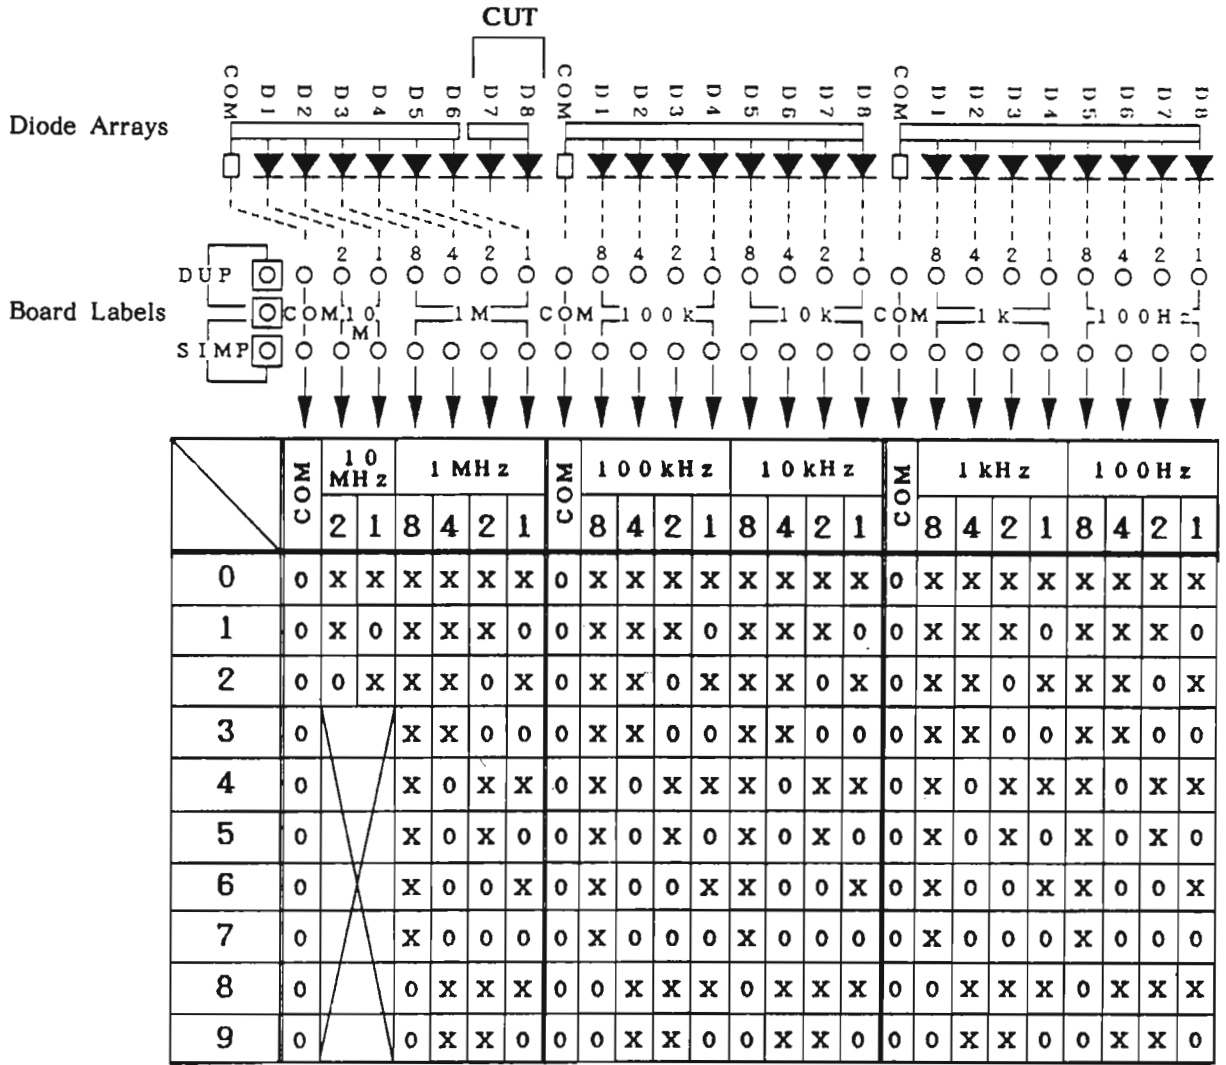

Figure 3. Diode Array Encoding Method and Installation
remove the two diodes furthest from the jumper component (see the Diode Arrays at the top of Figure 3). Thus each array to be used for MHz digits will be shorter than those used for kHz and Hz digits, and will have just 6 diodes (before programming), plus the jumper component. Be careful not to cut the jumper component.
The four diode array positions for each digit of frequency (except 10's of MHz) are marked on the Matrix Unit according to their value: 8, 4, 2 and 1, in that order from left to right. Refer to the Board Labels in Figure 3. The accompanying table (lower part of Figure 3) indicates which diodes must be cut ("X" in the table) to set any digit from 0 to 9, but you can also calculate which diodes to cut without the table. For example, to program 7 as the 10 kHz digit, just cut the fourth diode from the right on the array you will install in the center position: leaving the diodes in the 1, 2 and 4 positions ( $1 + 2 + 4 = 7$ ). The 10's of MHz digit is programmed with the two leftmost diode positions (values 2 and 1) on the leftmost array.
- (a) Because the receive and transmit frequencies are different, this is a semi-duplex channel, so a jumper must be installed between the DUP hole and the hole nearest the "6CH" label at the left edge of the "6CH" row pair on the board (step (3) on page 8).
- (b) Calculate the programming frequency (step (4) on page 8): in A3H mode, semi-duplex, the frequency used to program for receiving must be shifted 0.5 kHz below the actual receive frequency, so the programming frequency will be  $14500 - 0.5 = 14499.5$  kHz (14.4995 MHz). The transmit programming frequency for A3H mode is not offset, so it is the same as the desired operating frequency, 14570 kHz (14.570 MHz).
- (c) Six diode arrays are required for a semi-duplex channel. Cut the right end of the common rail (with two diodes) off of two of the arrays. Program both of these shortened arrays for 14 MHz, by cutting the leftmost diode nearest the white jumper component (the leftmost D1 at the top of Figure 3, labelled "2" on the board) leaving just D2 (value 1) for the 10's of MHz digit; and also cut the 3rd, 5th and 6th diodes (D3, D5 and D6, labelled "8", "2" and "1" on the board) leaving only D4 (value 4) for the 1's of MHz digit. Both of these "14 MHz" arrays should look like this:
(d) Now trim one of the remaining four diode arrays for the 100's and 10's of kHz digits for receiving: 4 and 9. To do this, cut the 1st, 3rd, 4th, 6th and 7th diodes (counting right from the jumper component, indicated as D1, D3, D4, D6 and D7 at the top of Figure 3). This leaves just the "4" value for the 100's of kHz, and "8" and "1" values (= 9) for the 10's of kHz digit. The array should now look like this: